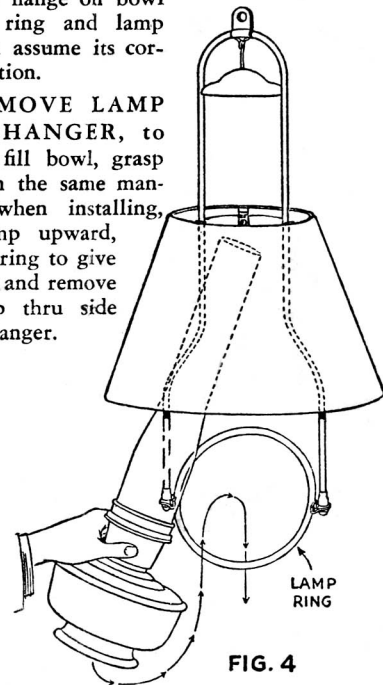

FIG. 4
**TO INSTALL LAMP IN HANGER:** Grasp lamp burner base between thumb and fingers (See Fig. 4). Thread chimney upward under